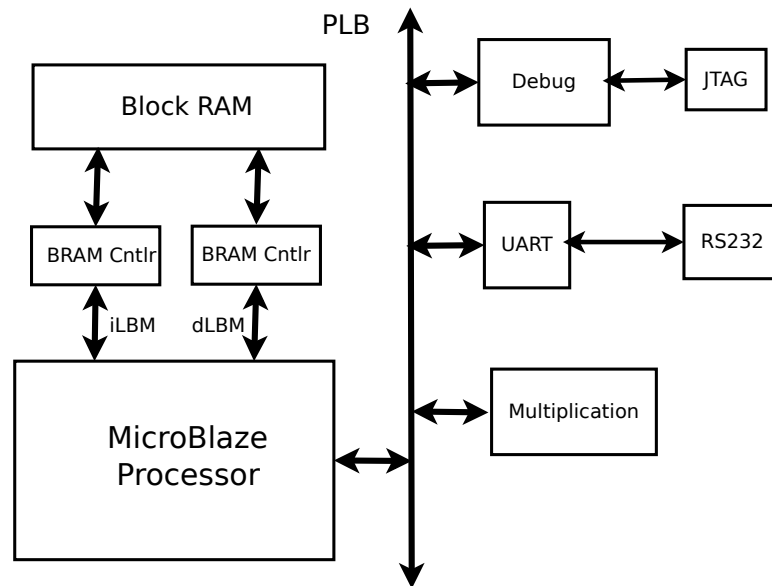

Figure 1: MicroBlaze System Diagram
The microprocessor system you will build in this lab is depicted in Figure 1. In place of the GPIO modules, utilized in the last lab, is a multiplication block, which represents the integer multiplication peripheral you will create. The UART in Figure 1 will be used to connect the XUP board to the workstation computer which will display the output of software executing on the MicroBlaze processor. The software you will develop in this lab will provide proof of operation for your multiplication peripheral.
1. To begin, create the base system shown in Figure 1 using a similar configuration as last lab. We do not have the multiplication peripheral yet but will add that after we create it.
2. At this point, we should have everything in Figure 1 except for the multiplication peripheral. The next